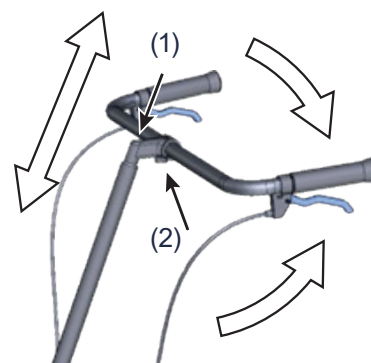

Fig 29.
1. Loosen screw (1) Fig 29.
1. Loosen screw (2) Fig 29.